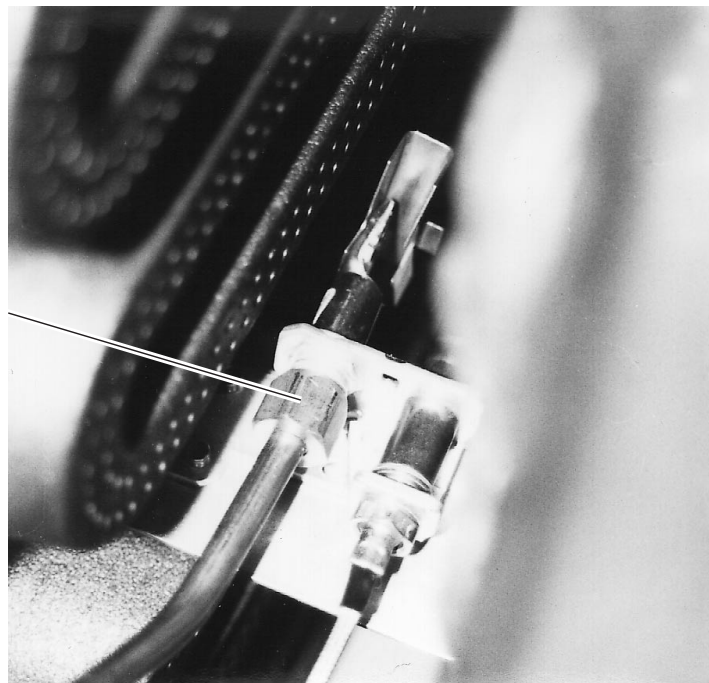

Fig. 30
6. With a 1/2" wrench remove the pilot tubing from the pilot assembly. (Fig. 30)